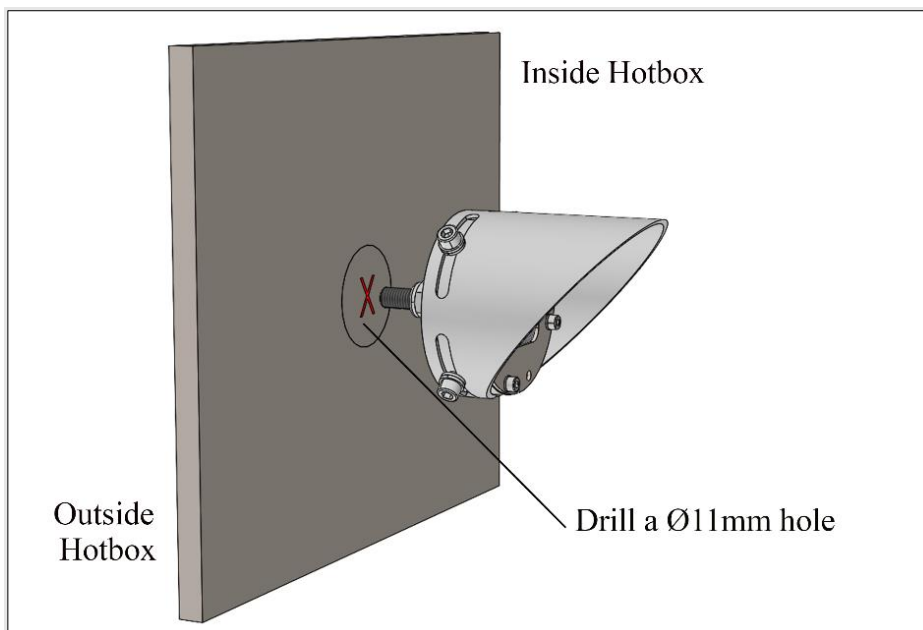

Figure 5-7: Drill a Hole at the Marked Spot
- Locate the marking “X” which indicates the centre of the light beam. Drill a Ø11 mm hole at the marked position – Figure 5-7.